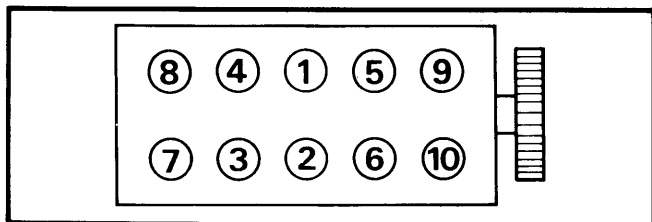

Fig. 3 Cylinder Head Bolt Tightening Sequence
5) Lightly lubricate cylinder head bolts with engine oil. Insert bolts and tighten in correct sequence. See Fig. 3. Remove cylinder head alignment gauge (Mot. 446). Insert pushrods. Install remaining components in reverse order of removal and adjust valve clearance.